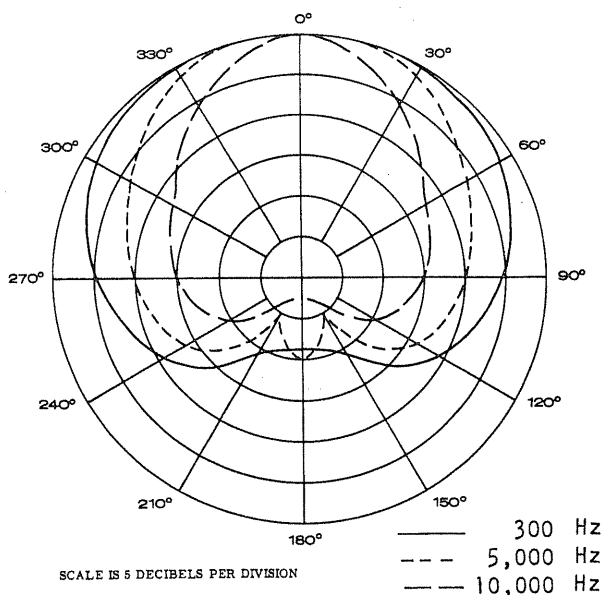

Figure 2 - Polar Pattern
- Polar Pattern: Cardioid, uniform front-to-back discrimination. See Figure 2.